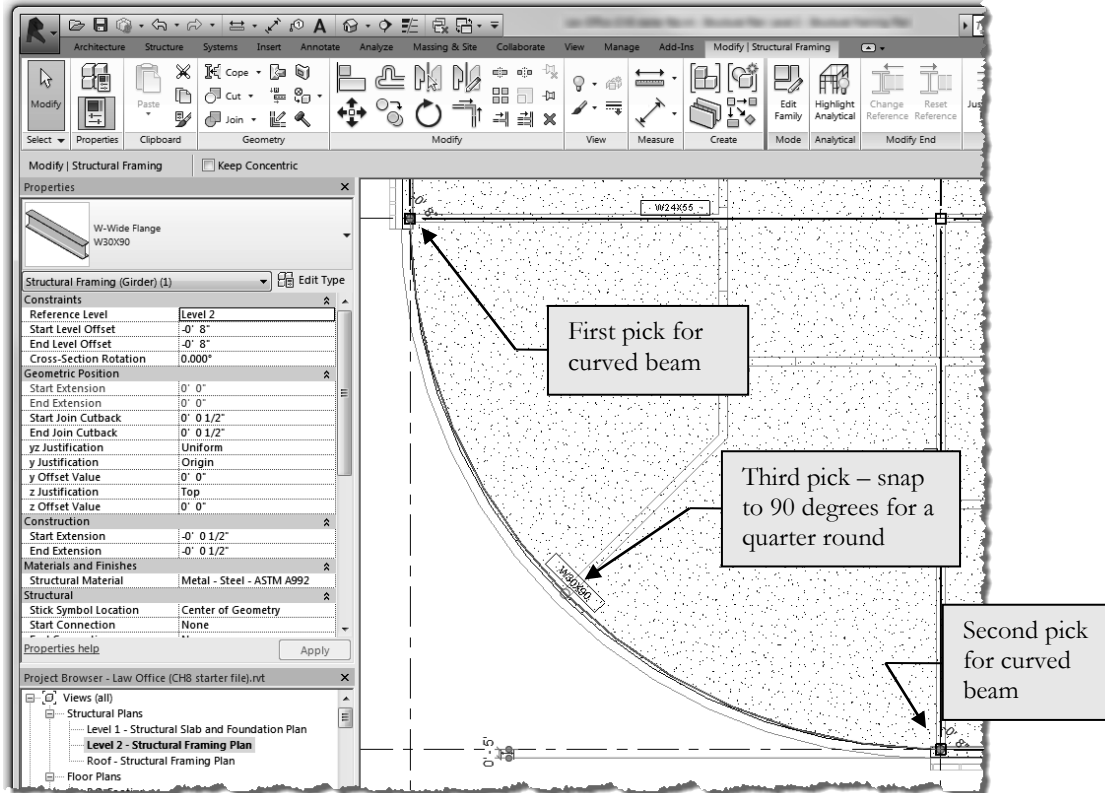

FIGURE 7-3.24 Placing a curved beam
40. Place the curved beam; see Figure 7-3.24.